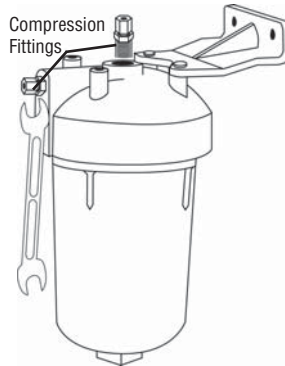

Figure 4
4. Screw one fitting into the filter outlet (top) and the other fitting into the filter inlet (side). Tighten both fittings with a wrench. Do not overtighten. (Figure 4)